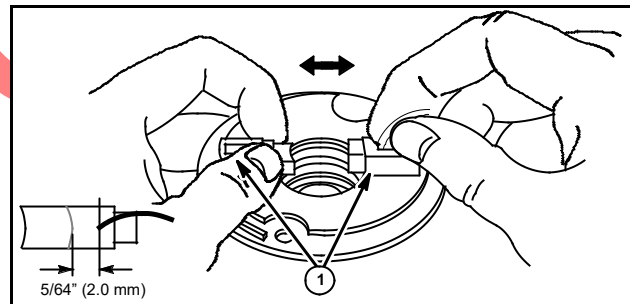

Fig. 36
7. Before removing armature from end cap, check brushes (1) for freedom of movement. If brushes stick in their retainers, repair before reassembly, Fig. 36.